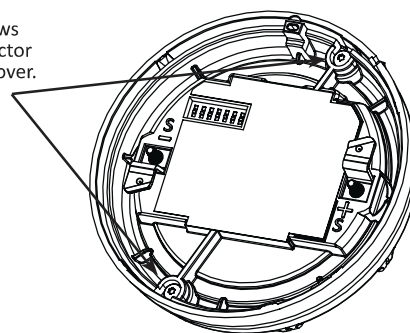

FIGURE 4: Removing Detector Cover (PAD100-PD only)
3. Remove cover from detector by removing the two screws (T10) on back of detector (FIGURE 4).